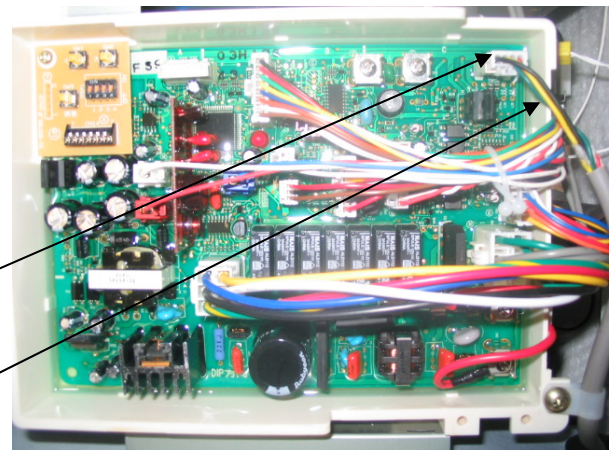

Figure 4
4. Connect the communication cable (MIC-K) to the connector marked "F" in upper right corner of the water heater PCB. See figure 4 for location of connector "F".